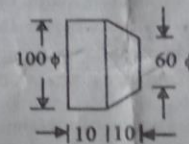

Fig. 1
- (b) Design a flat form tool for the workpiece given (Fig. 1). The orthogonal rake angle is 10° and clearance angle is 8° . Determine depth of profile of the form tool. 5